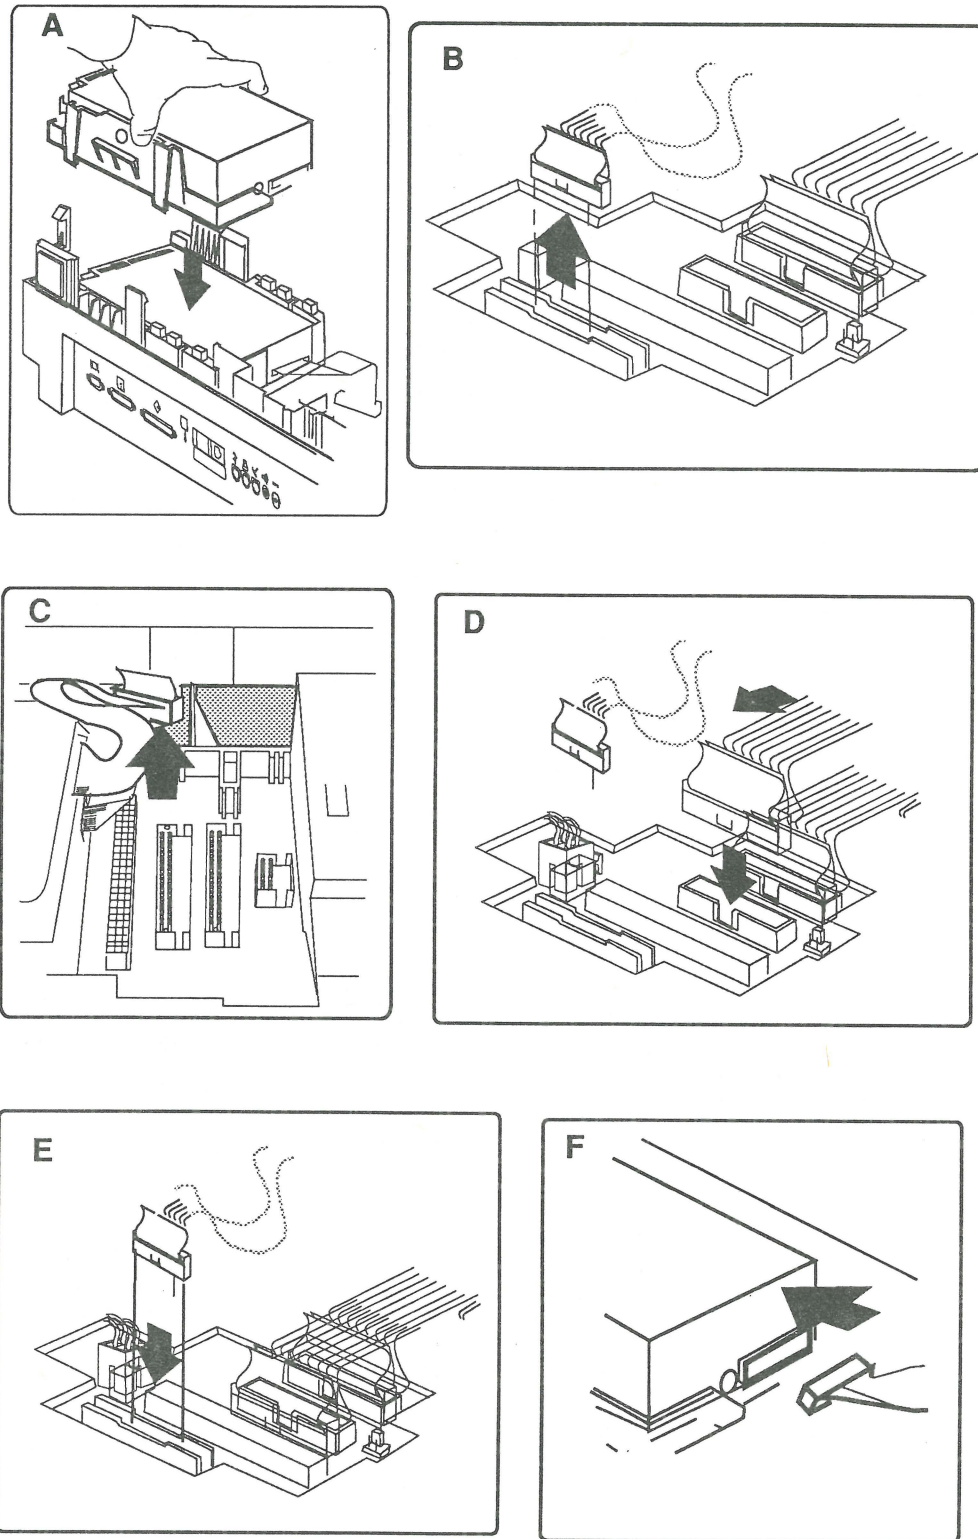

FIGURE 4
8. **Figure 4-A.** Lower the disk drive into the subframe, align the four metal tabs, and press down until the plastic latches at the front and rear snap in place.
9. **Figure 4-B.** Disconnect the display cable from logic board connector J19.
10. **Figure 4-C.** Route the floppy drive cable under the display assembly as shown.
11. **Figure 4-D.** Connect the floppy drive cable to logic board connector J15.
12. **Figure 4-E.** Connect the display cable to logic board connector J19.
13. **Figure 4-F.** Connect the other end of the floppy drive cable to the upper disk drive.